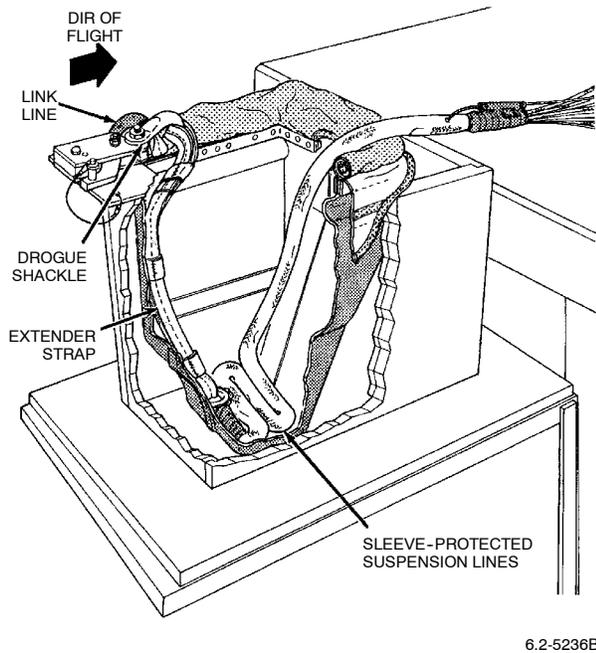

Figure 30. Route Drogue Sleeve-Protected Suspension Lines
b. Route drogue sleeve-protected suspension lines in four tightly packed rows in bottom of container running from left to right while working toward container front (Figure 30).